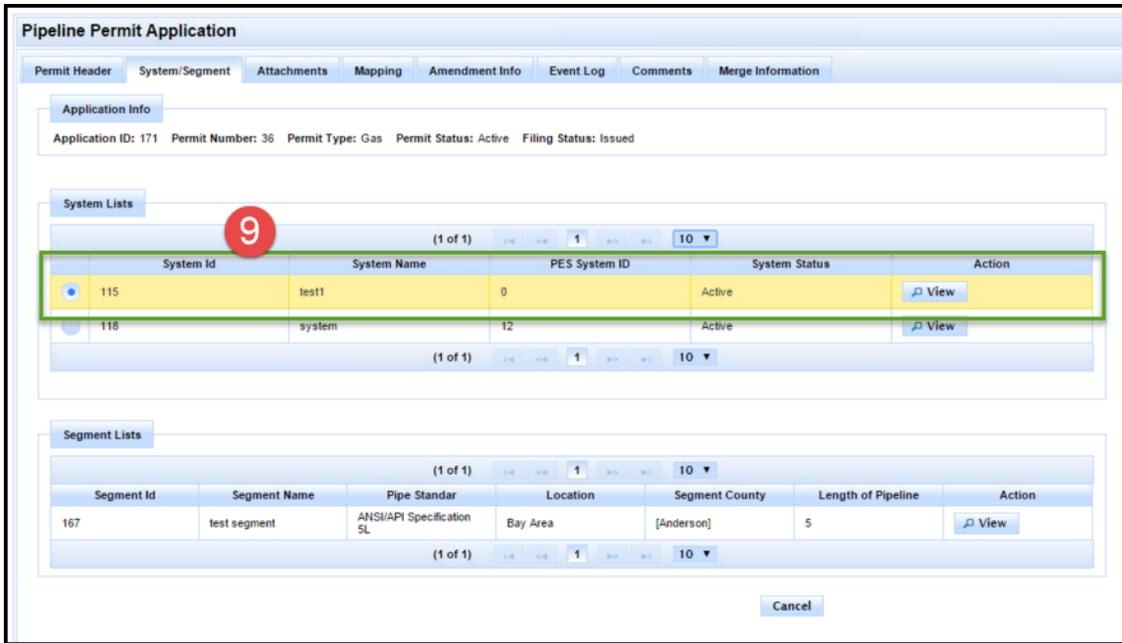

Figure 130: Supervisor System Transfer, Step 9
9. Verify the transfer by clicking the **System/Segment** tab and reviewing it. You will now see the system you just transferred as part of this permit, as shown in Figure 130.